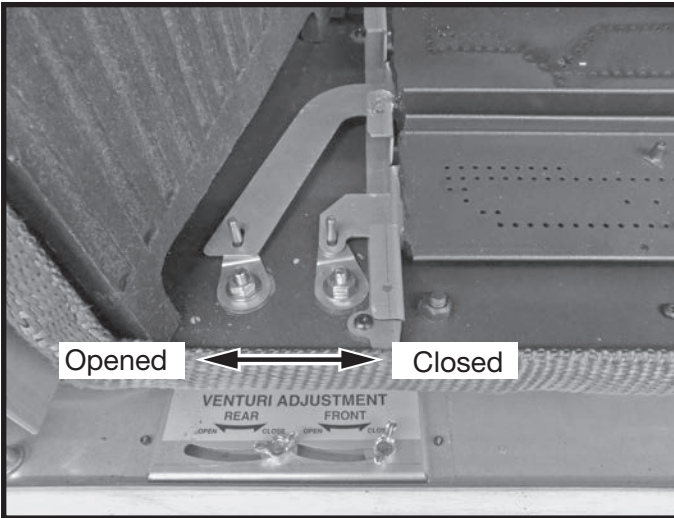

Figure 47: Tofino venturi adjustments.
3. With the fireplace turned on, use the adjustments (Figure 47) to adjust for flame appearance.